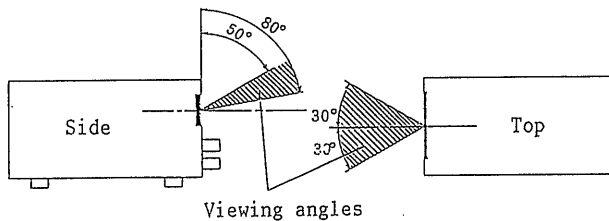

Figure 2-2
- (b) The viewing angles of the readout (liquid crystal) are as shown in Figure 2-2. This is because the power supply has been designed primary for use as bench top device.